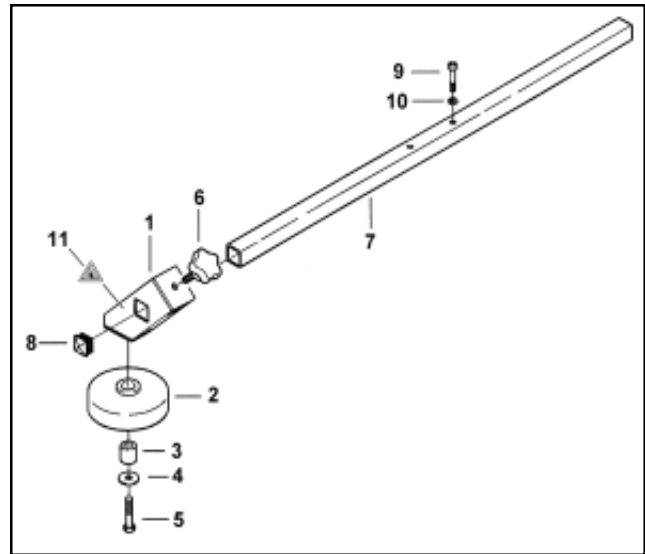

Figure 2 - Parts Illustration
1. Refer to parts illustration Figure 2 to find part needed and reference number.